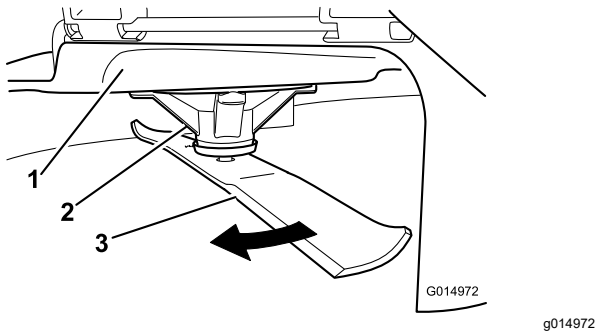

Figure 101
2. While wearing thickly padded gloves, or other adequate hand protection, slowly rotate the blade into a position that allows you to measure the distance between the cutting edge and the level surface the machine is on (Figure 101).